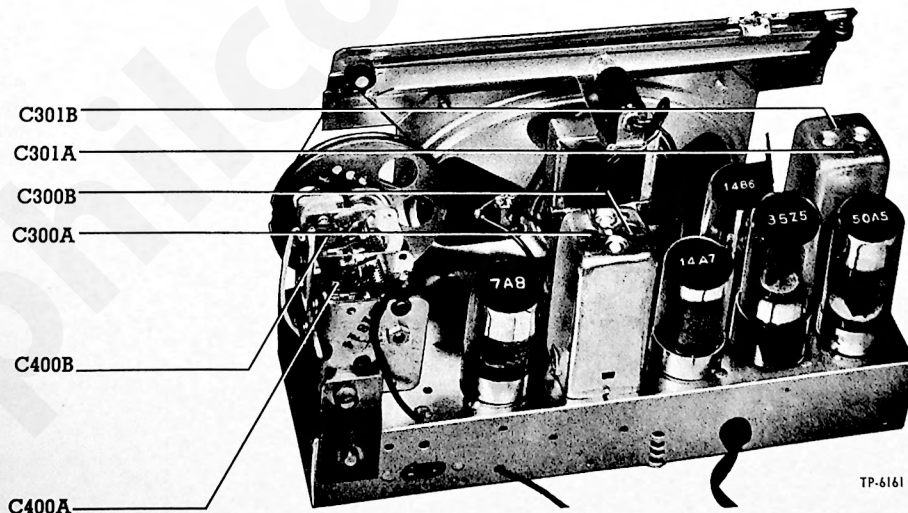

FIGURE 3. TOP VIEW, SHOWING TRIMMER LOCATIONS
**OUTPUT METER** — Connect to left (output) plug of terminal jack and chassis, as shown in figure 3.